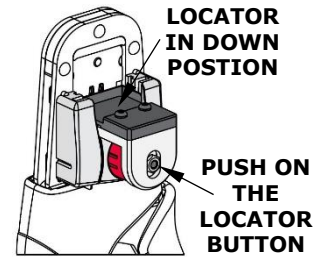

Figure 3
2. Make sure the center of the locator is in the down position. With the locator attached, push the locator button on the back of the hand tool to bring the locator forward through the tooling. See Figure 3.